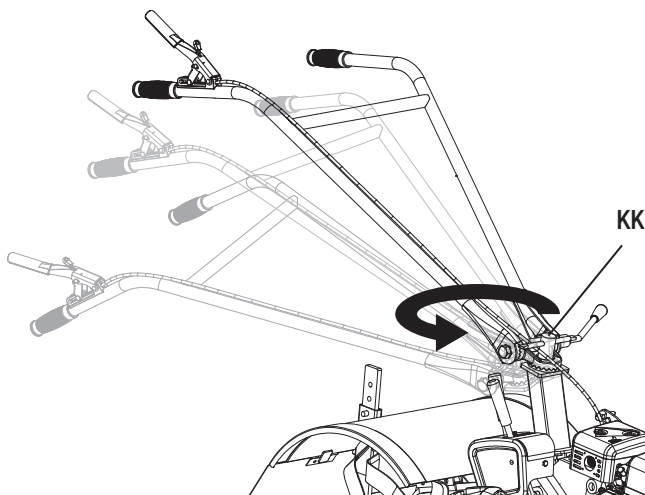

Figure 1-11
- To adjust the handle axis point just loosen the left/right handle lock (KK) and rotate the handle left or right to the required axis point. Then tighten the left/right handle lock (KK). See Figure 1-11.